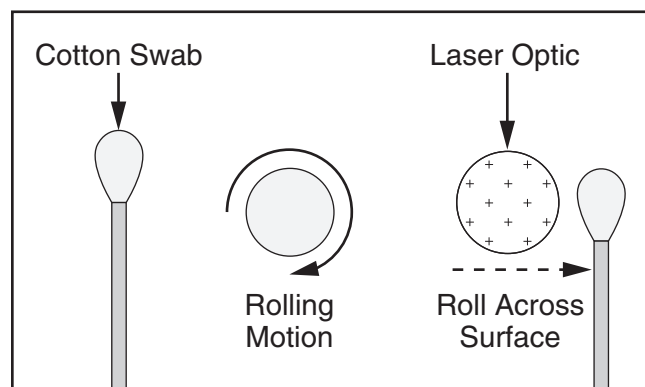

Figure 77. Rolling swab across surface.
4. With a gentle rolling motion, roll swab across surface of lens/mirror to absorb any particulates stuck to surface (see **Figure 77**).